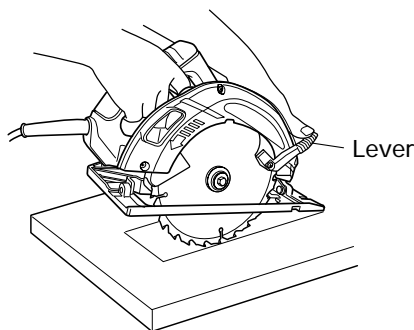

Fig. 15
1. Mark the desired cutting area clearly with lines all side. (See Fig. 15)
3. Push the lever all the way back so the blade is exposed as shown in Fig. 15.